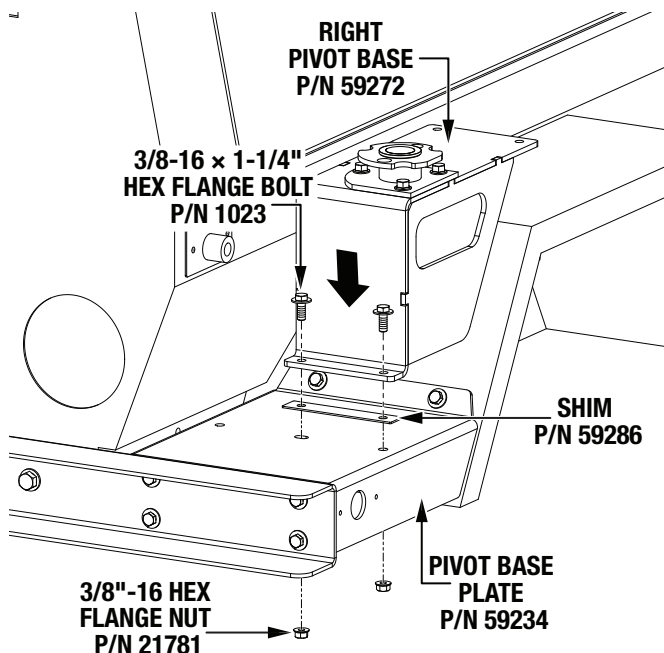

Figure 17. Pivot Base Installation
4. Secure the right pivot base (P/N 59272) to the pivot base plate (P/N 59234) with two 3/8-16 × 1-1/4" hex flange bolts (P/N 1023) and two 3/8"-16 hex flange nuts (P/N 21781). Place pivot plate shims (P/N 59286) between the pivot base plate and pivot base as needed to keep the top of the base level with the top of the fender. See Figure 17.